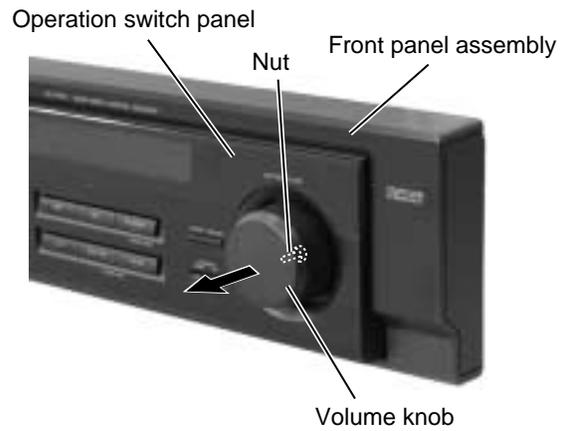

Fig.16
■Removing the system control board / power switch board (See Fig.16 to 18)